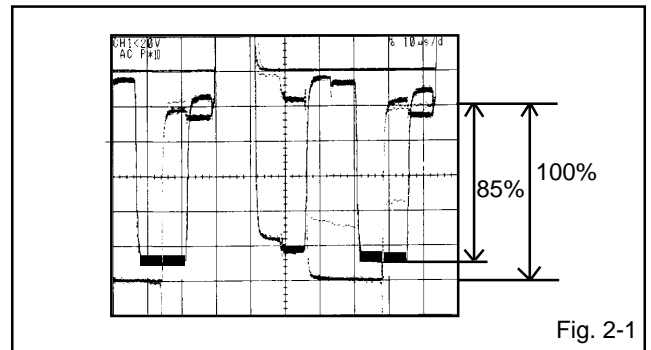

Fig. 2-1
6. Press the VOL. UP/DOWN button on the remote control until the red color level is adjusted to $85 \pm 10\%$ for the white level. (**Refer to Fig. 2-1**)